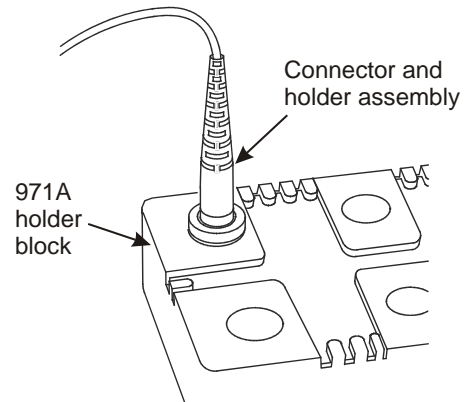

Figure 24. Place Connector and Holder Assembly into 971A Holder Block
3. **Place Connector into 971A Holder Block**—After 10 minutes of curing time, remove the connector and holder assembly from the oven and place it into one of the ports in the 971A holder block to cool (Figure 24).
9. **Allow Adhesive to Cure**—Place assembly in a 971A holder block (Figure 24). Allow adhesive to cure for at least 1 minute.